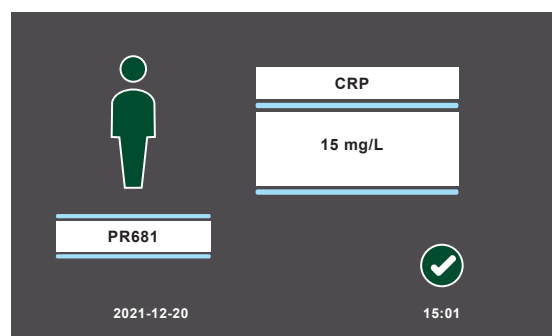

Figure 22. Patient's test result screen
19. Tap Accept icon  when the result is read on the screen in Figure 22.